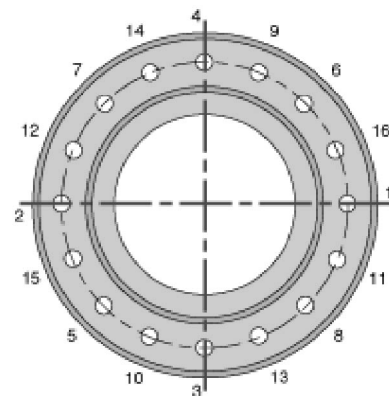

FIGURE 4: Tightening Sequence
2. As the first torquing step, tighten the bolts in a crisscross sequence as shown in Fig. 4. Using a torque wrench with 20% of the final torque listed in the table on the other side of this sheet, taking care that points (I) and (II) are satisfied at all times.